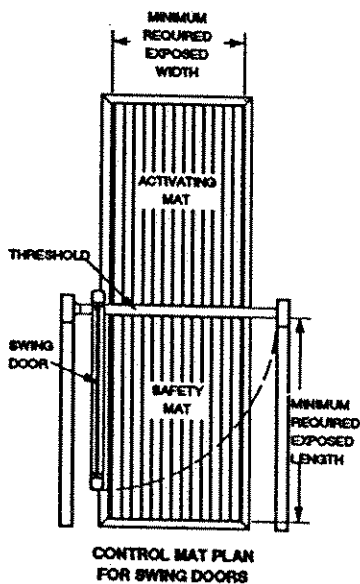

Figure 2
5. **It Is Necessary to Have a "Safety Mat" Covering the Entire Area the Door Swings Over.** Step through the doorway onto the safety mat and remain motionless for four seconds. The door should remain open. Repeat at several locations on the mat. (See Figure 2)